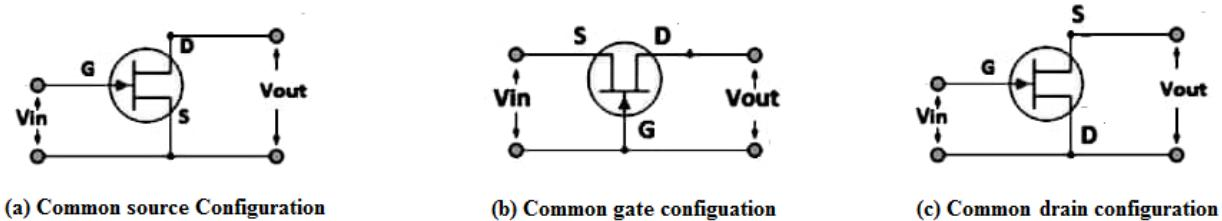

Figure 3.6 Different JFET configuration
3.3.6 JFET configuration: As JFET is a three terminal device SOURCE, GATE and DRAIN terminals. However we need four terminals two for input and two for output to connect JFET in electronic circuit. To overcome this difficulty one terminal of the JFET common to both input and terminals (Figure 3.6) . Accordingly a JFET can be configured in the following three ways: